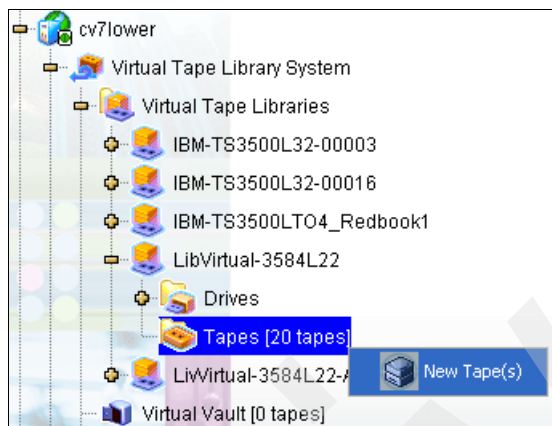

Figure 6-48 Creating additional virtual volumes -start wizard
1. In the panel shown in Figure 6-48, right-click **Tapes** and select **New Tape(s)**.